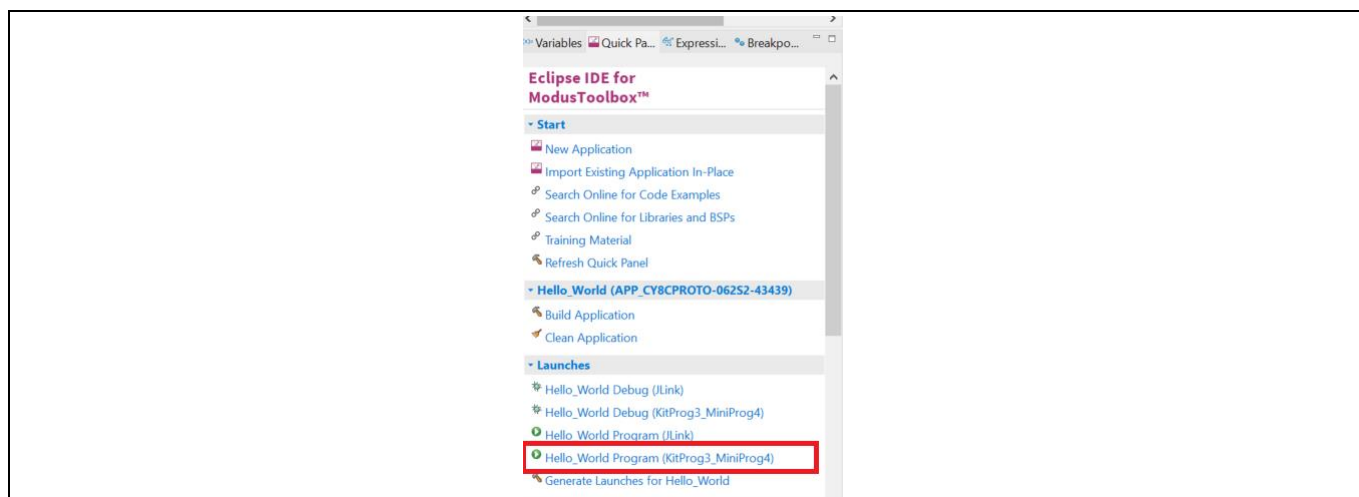

Figure 7 Programming in ModusToolbox™
4. To build and program a PSoC™ 6 MCU application, in the Project Explorer, select <App_Name> project. In the Quick Panel, scroll to the **Launches** section and click the <App_Name> **Program (KitProg3_Miniprogram4)** configuration as shown in Figure 7.